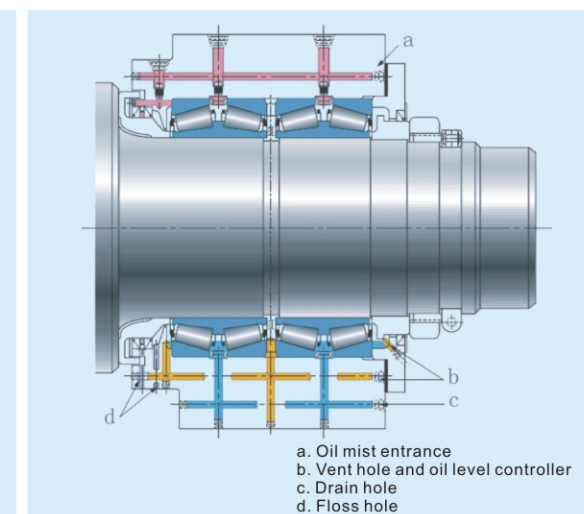

Fig 8-2 : Oil mist lubrication
- Oil mist lubrication: This is often used for high speed applications. The oil mist maker includes a nozzle within the lubrication system. (Fig 8-2)